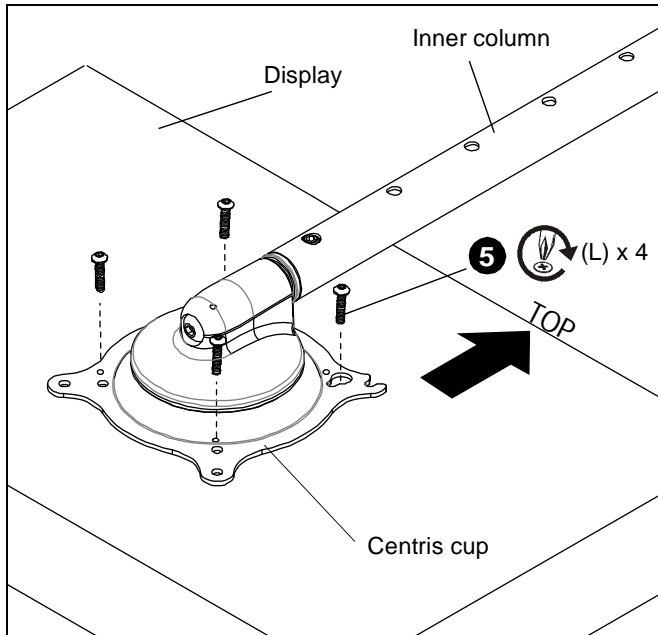

Figure 3
2. Install two M4 x 12mm Phillips pan head screws (L) into upper mounting holes in display back leaving 3/16" of screw protruding out of display.
3. Align screws in display back with upper mounting holes in Centris cup until screws are seated in lower area of mounting slots. (See Figure 3)
4. Place Centris cup against display back and install two M4 x 12mm Phillips pan head machine screws (L) through lower mounting holes in Centris cup and into lower mounting holes in display back.
5. Secure display to mount by tightening the four M4 x 12mm Phillips pan head screws (L). (See Figure 3)